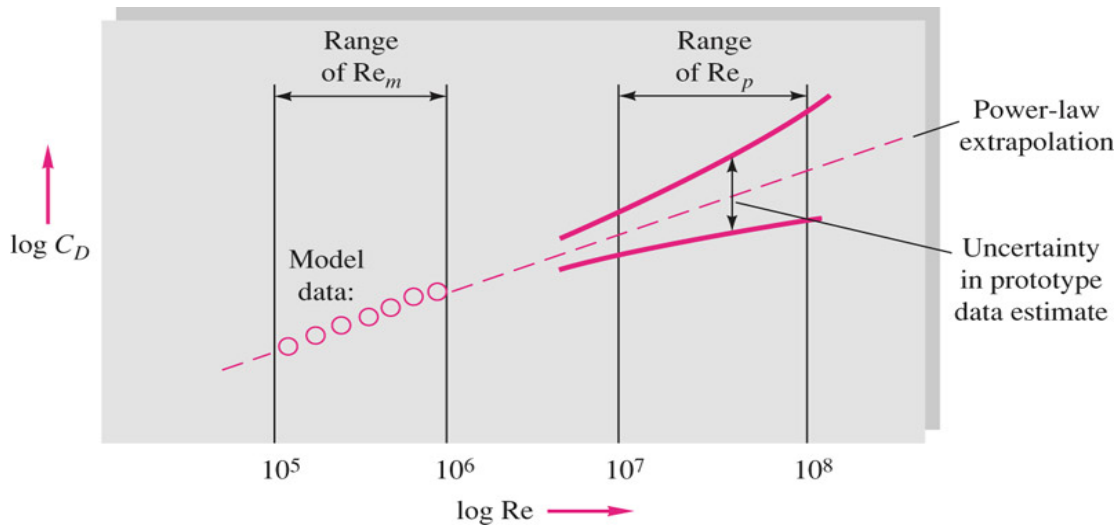

Fig.1: Reynolds number extrapolation.
2) Typically the Reynolds number of the model is too small (by a factor of 10 to 1000). As a result, we end up estimating the desired high-Reynolds-number prototype data, by extrapolating the model data in low Re, as shown in Fig.1. This may result in high uncertainty in the analysis; but there is no other practical alternative in hydraulic model testing.